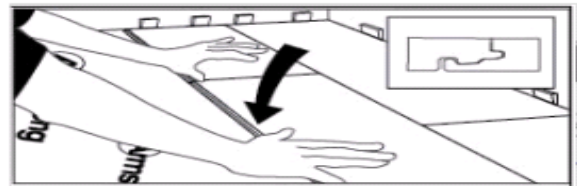

Fig. 15
14. Mark the last piece, cut and install. After all boards in the row are installed, press or walk all boards flat to the subfloor to begin the next row (Fig. 15).